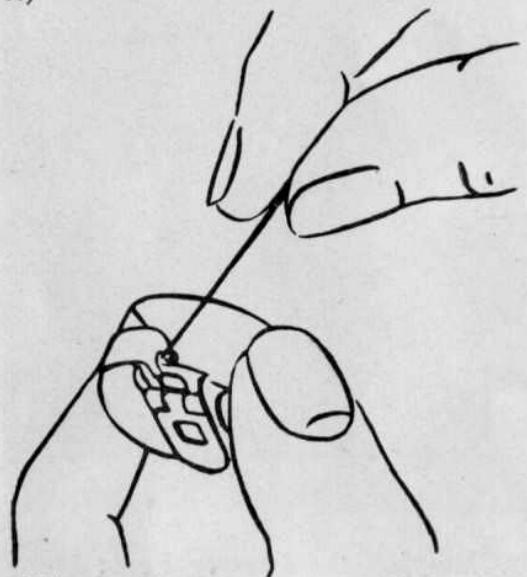

FIG. 7
c. Now pull the thread to the right under the tension spring and let it come out where the bent tab at the tip of the spring fits into the small round hole in the bobbin case. (Fig. 7.)